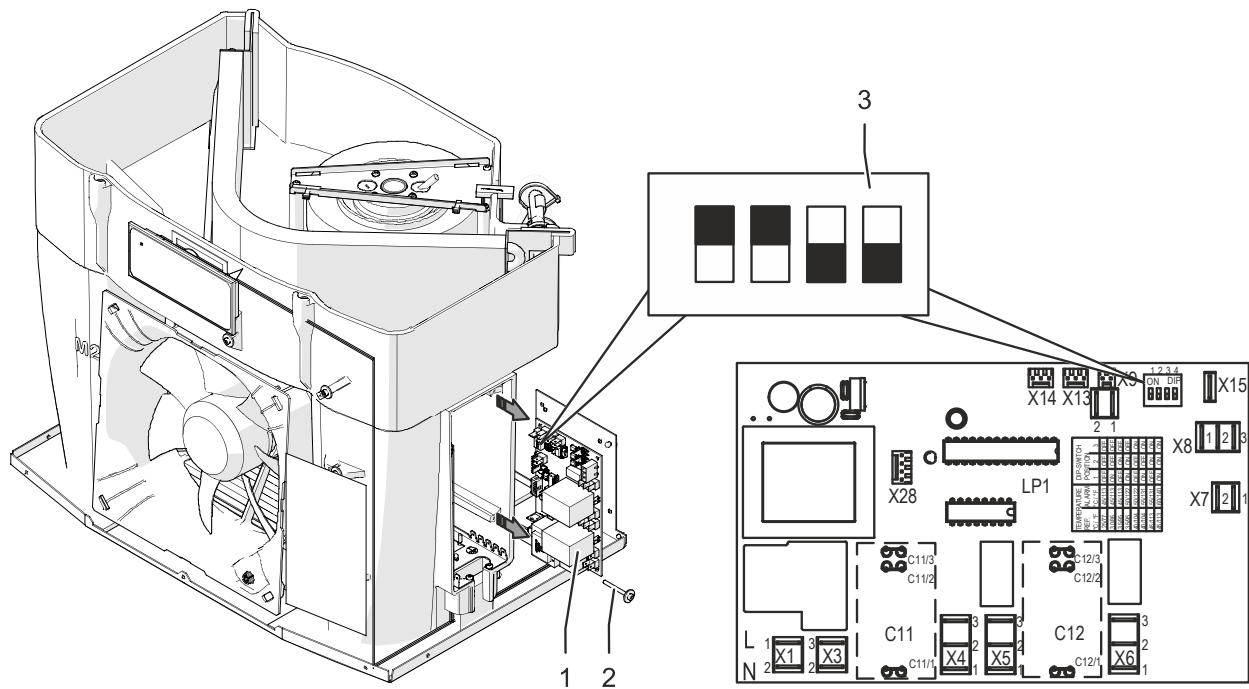

Fig. 22: Setting the DIP-switch
2. Remove the plastic screw (Fig. 22, item 2).
3. Pull out the controller board (Fig. 22, item 1).
4. Set the DIP-switch (Fig. 22, item 3) on the controller according to "DIP-switch setting possibilities", Page 41.